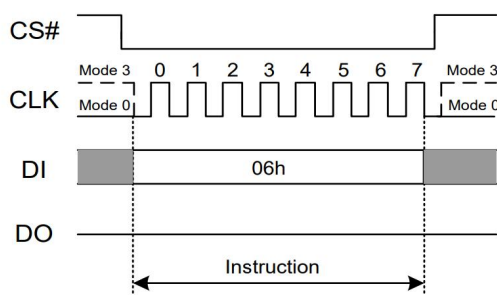

Figure 5 Write Enable Instruction
The Write Enable instruction (Figure 5) sets the Write Enable Latch (WEL) bit in the Status Register to a 1. The WEL bit must be set prior to every Page Program, Sector Erase, Block Erase, Chip Erase and Write Status Register instruction. The Write Enable instruction is entered by driving CS# low, shifting the instruction code “06h” into the Data Input (DI) pin on the rising edge of CLK, and then driving CS# high.